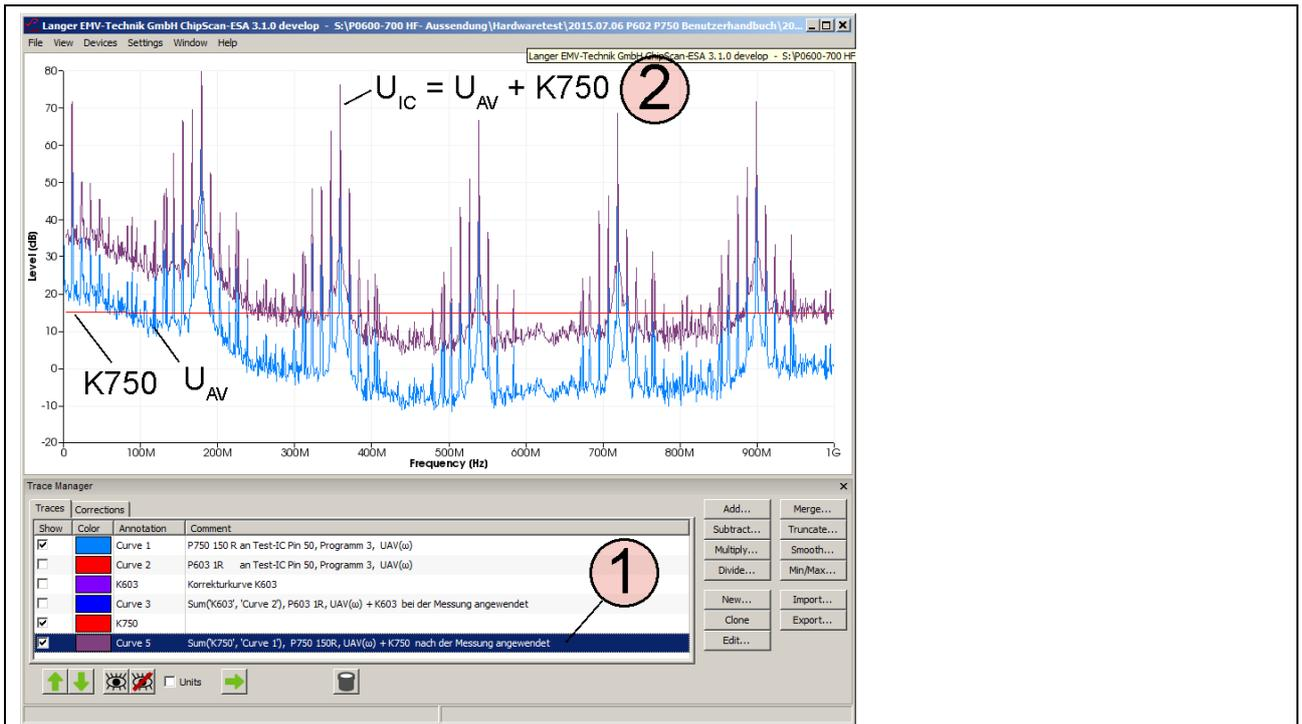

Figure 48: Correction after the measurement; result of the addition  $U_{IC} = U_{AV} + K750$
The calculation creates the entry (① **Figure 48**) at the bottom of the "Traces" list and is displayed as "Curve 5" (② **Figure 48**).